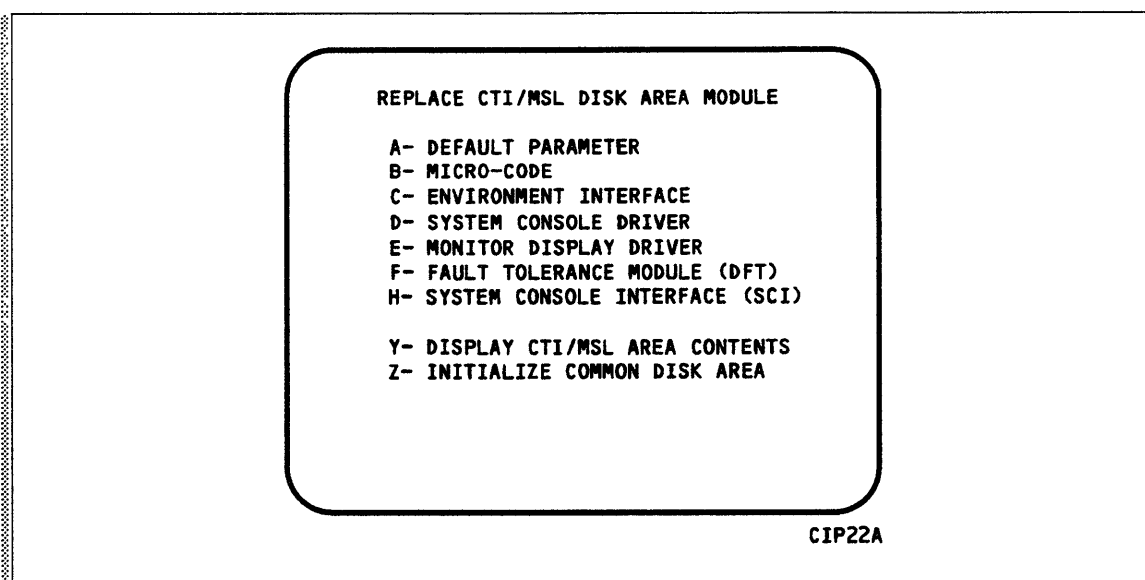

Figure 2-25. Replace CTI/MSL Disk Area Module
Select this option to replace microcode, EI, the CC634B SCD, MDD, DFT, DPB, SCI, or the NOS/VE boot modules, or to initialize the CDA. When option D is selected, you are prompted to enter the disk channel and disk unit numbers. After you enter the channel and unit numbers or press the carriage return key (CR) to accept the default values shown, the REPLACE CTI/MSL DISK AREA MODULE display shown in figure 2-25 appears. Options A through H manually replace CIP modules in the Common Disk area on the deadstart disk.